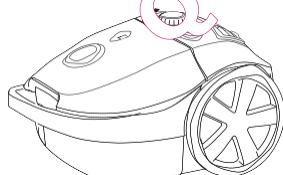

Figure 7 Vacuum suction control
8. You can adjust the vacuum suction with the vacuum suction control, see Figure 7. It is advisable to reduce the vacuum suction when cleaning upholstered furniture and curtains. This will prevent the fabric from being sucked into the nozzle.